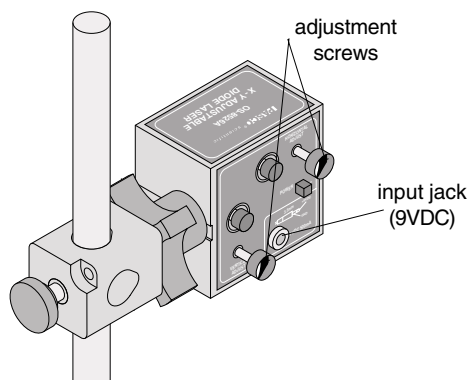

Figure 3: Laser Beam Fine Adjustment
- ⑤ Plug the 9VDC adapter phone plug into the back of the laser and turn on the laser.
- ⑥ If necessary, adjust the direction of the laser beam from left-to-right and up-and down until the beam is in desired position. See Figure 3.